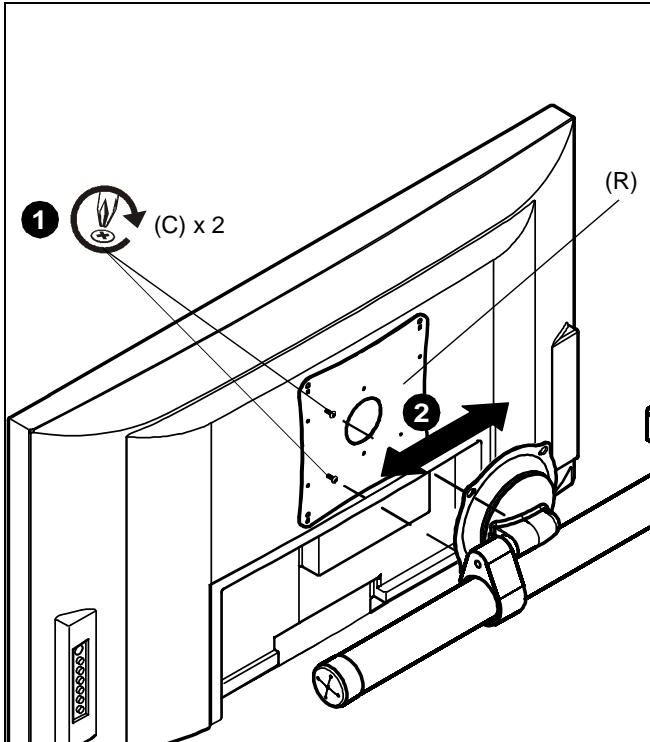

Figure 4
1. Start two Phillips pan head screws into two left mounting holes on VESA plate (R). (See Figure 4)
2. Align two screws in VESA plate (R) with two left mounting holes in Centris cup and adjust display until screws are seated in narrow area of teardrop mounting holes. (See Figure 4)